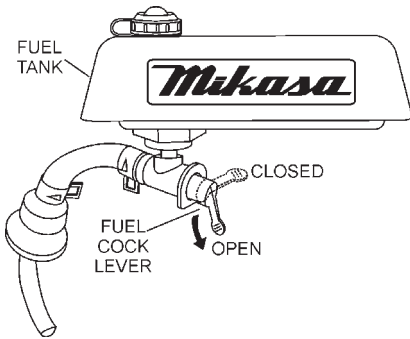

Figure 5. Fuel Shut-Off Valve (ON)
1. Open the **fuel shut-off valve** by moving the **fuel cock lever** to the **open** position (Figure 5).
2. Close the **fuel shut-off valve** (Figure 5) by moving the fuel cock lever to the **CLOSED** position.